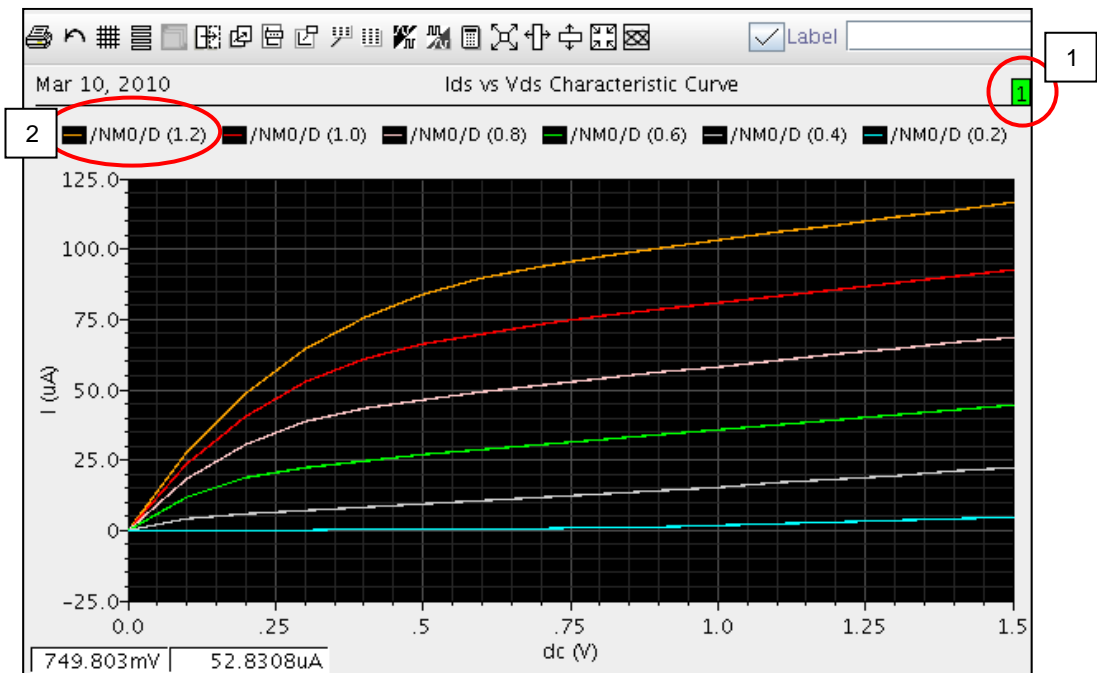

Figure Lab1-17 : Waveform Window
- (i) For the I_{ds} vs V_{ds} characteristic curve obtained, (refer Figure Lab1-17)